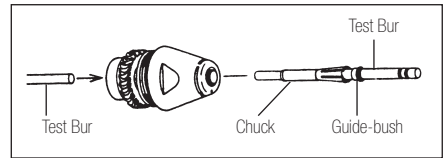

Fig.12
- When the rotor nut is loose. Push out the chuck carefully with a dummy bur or the shank of bur from the back of the cartridge, the Guide-bush and the chuck will come out. (Fig.12)